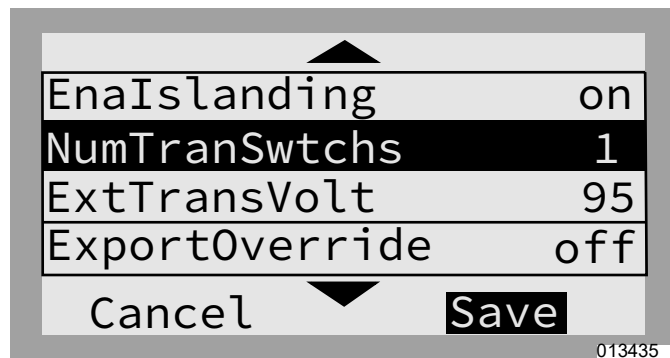
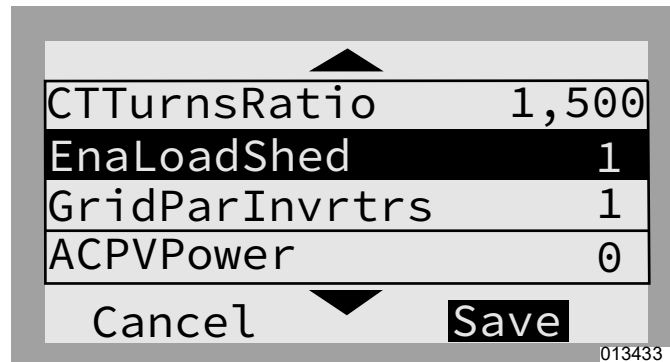
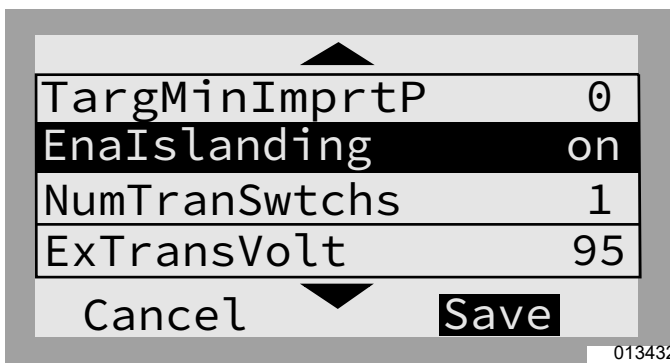

Figure 7-20. PV + Storage - Whole Home (2 of 3)
Figure 7-21. PV + Storage - Whole Home (3 of 3)
Figure 7-19. PV + Storage - Whole Home (1 of 3)
- See Figure 7-19, Figure 7-20, and Figure 7-21. Inverter “Mod. Settings:”